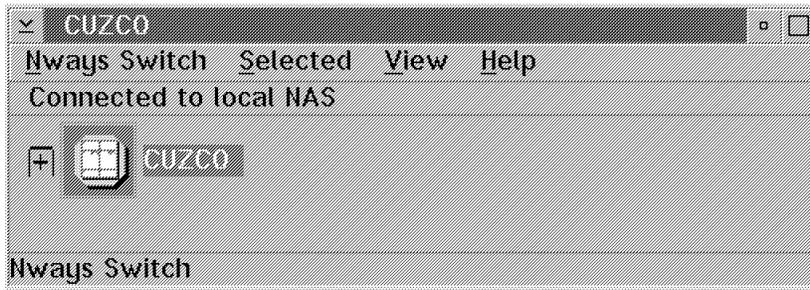

Figure 4. NWays Switch screen.
- 1. If the *NWays Switch* screen (See Figure 4) is displayed go to 10.1, "Export the Active Configuration." Otherwise proceed.
Note: : Ensure that the *NWays Switch Resource Control Local* screen (See Figure 4) is not *Minimized* . Press *Control* and *Escape* keys together to display the *Window List*.